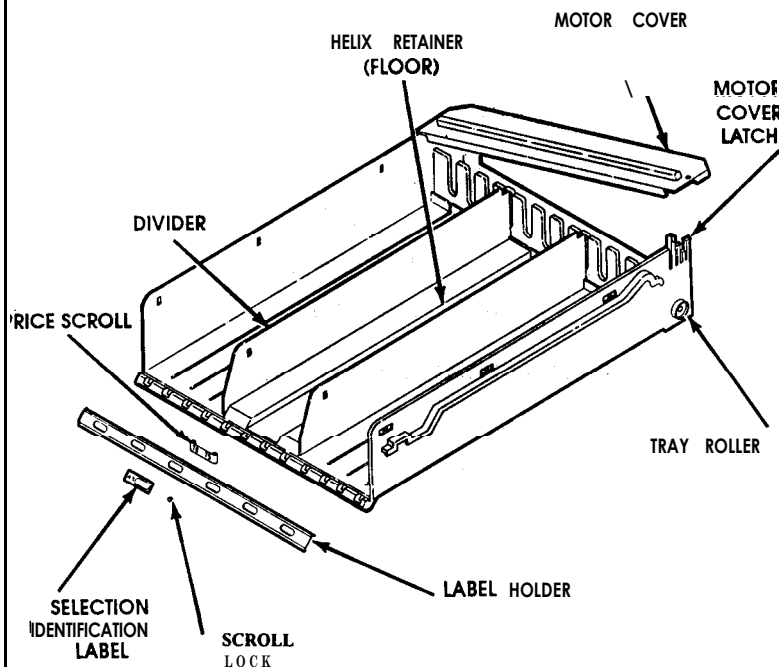

Figure 11
2. Remove the motor cover. **See Figure 11.**